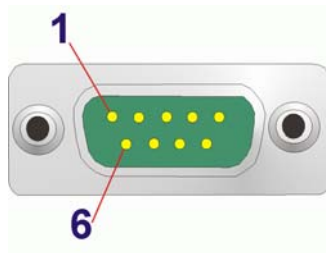

Figure 3-16: RS-232 Serial Port Pinout Location
- CN Pinouts:** See **Table 3-6** and **Figure 3-16**